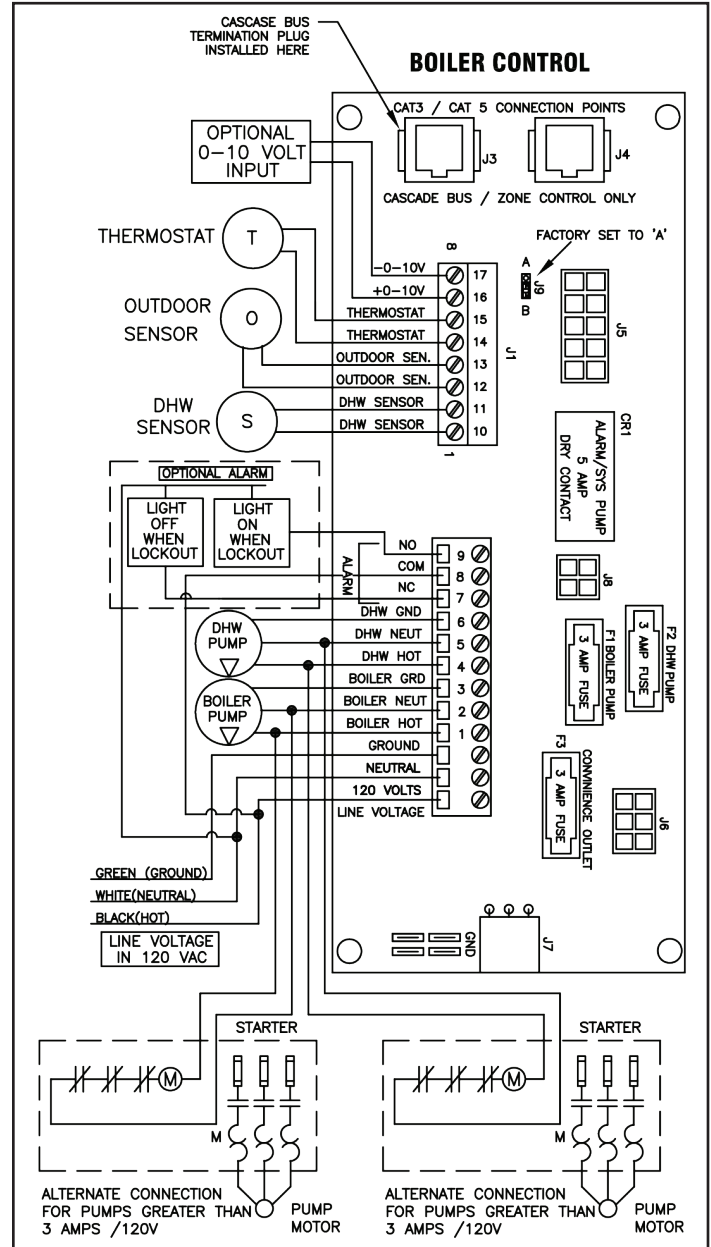

Figure 29 - Control Wiring
**NOTE:** A termination plug is included in the CAT 3 / CAT 5 Bus Connection Point, labeled J3 in Figure 29. DO NOT REMOVE THIS PLUG! Doing so will affect boiler operation and void warranty.
1. Connect the incoming power wiring to the line voltage terminal strip in the electrical junction box at terminals 120V, Neutral, Ground (shown in Figure 29).
3. Connect the boiler pump as shown in Figure 29 to the terminals marked 1 – (HOT), 2 – (NEUT), and 3 – (GND). The
The control includes a dry contact alarm output. This is an SPDT circuit, rated at 5 amps at 120 volts. This contact can be used to activate an alarm light or bell or notify a building management system if the boiler goes into a lockout condition. The circuit between the ALARM COM and NC terminals is closed during normal operation and the circuit between ALARM COM and NO is open during normal operation. The connections depicted in Figure 29 show two 120 volt lights connected to the alarm terminals. One light will be on when the boiler is in normal mode and the other light will be on when the boiler is in lockout mode.
1. Connect the room thermostat to the terminals marked THERMOSTAT in the electrical junction box (see Figures 29 and 32). Alternately, any dry contact closure across these terminals will cause the boiler to run. Take caution to ensure neither of the terminals becomes connected to ground.
2. Connect the indirect sensor (7250P-325) to the terminals marked DHW SENSOR (shown in Figures 29 and 32) in the electrical junction box.
2. Connect a building management system or other auxiliary control signal to the terminals marked 16, 0-10 VOLT + and 17, 0-10 VOLT – in the electrical junction box (shown in Figure 29). Caution should be used to ensure that the 0-10 VOLT + connection does not become connected to ground.